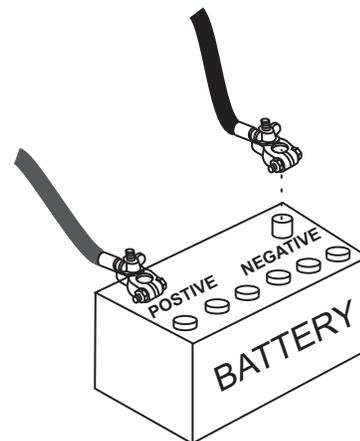

Figure 45. Battery Connections
3. Connect the negative battery cable (BLACK) to the negative post on the battery (Figure 45).